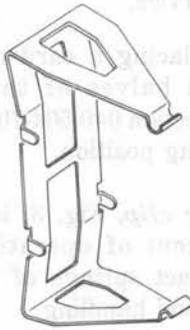

Fig. 3—4B Cover Clip
- 3.07 **4B Cover clip**, Fig. 3, is used to minimize displacement of operating cards, contact covers, and contact springs of wire spring relays during shipping and handling.